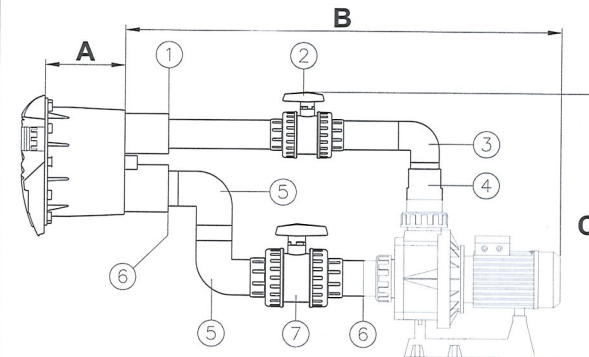

Fig. 6
- Glue the 75x63 mm. reducing bush (no.1, fig. 6) to the discharge mouth of the niche (see fig. 6).
- Glue a Ø 63mm. pipe (*) in the reducing bush (no.1, fig. 6).
- Glue the Ø 63mm. valve (no.2, fig. 6) to the Ø 63mm. pipe (*).
- Glue a Ø 63mm. pipe (*) to the Ø63mm. pipe (no.2, fig. 6).
- Glue the Ø 63mm. elbow (no.3, fig. 6) to the Ø 63mm. pipe (*).
- Glue a Ø 63mm. pipe (*) to the elbow (no.3, fig.6).
- Glue a 90/75/63 mm. conical reducer (no.4, fig. 6) to the Ø 63mm. pipe (*) and the Ø 90mm. connector on the pump.
- Glue the 90x75 mm. reducing bush (no.6, fig. 6) in the suction mouth of the niche (see fig. 6).
- Using a Ø 75mm. pipe (*), glue a Ø 75mm. elbow (no.5, fig. 6) on to the reducing bush (no.6, fig. 6).
- Using a Ø 75mm. pipe (*) join the other Ø 75mm. elbow (no.5, fig. 6) to the elbow already glued (see fig. 6).
- Glue the Ø 75mm. valve (no.7, fig. 6) to the elbow (no.5, fig. 6) using a Ø 75mm. pipe (*) to join them.
- Glue a Ø 75mm. pipe (*) to the valve (no.7, fig. 6).
- Glue a 90x75 mm. reducing bush (no.6, fig. 6) to the Ø 75mm. pipe (*) and the Ø 90mm. connector on the pump.